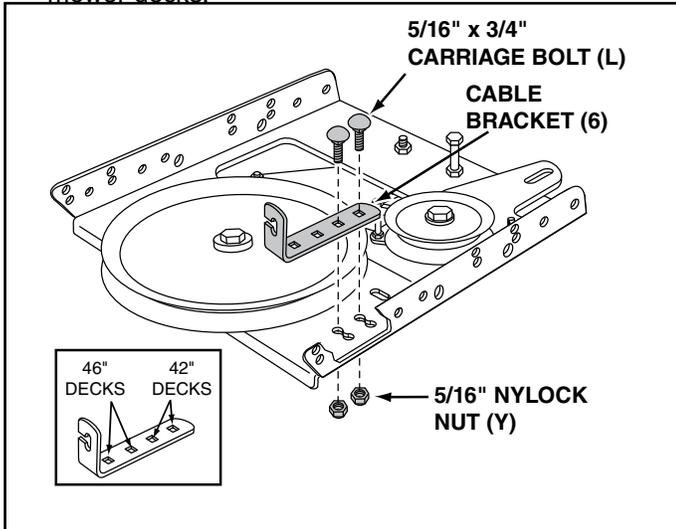

FIGURE 35
STEP 35: (SEE FIGURE 35)
- Assemble the cable bracket (6) to inner part of the double holes in the clutch/idler assembly using two 5/16" x 3/4" carriage bolts (L) and 5/16" nylock nuts (Y). Use the two front holes in the cable bracket for 42" mower decks. Use the two rear holes for 46" mower decks.